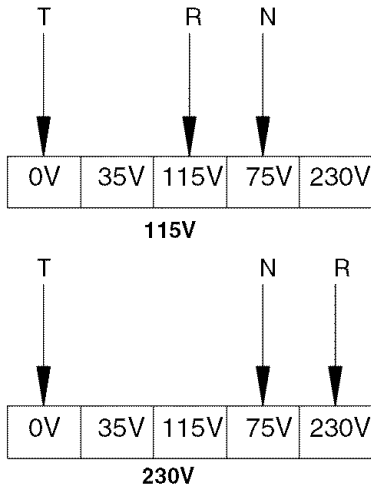

Figure 4 - Welder Transformer Wiring Diagram
- Rewire welding transformer to 230 volts (See Figure 4).